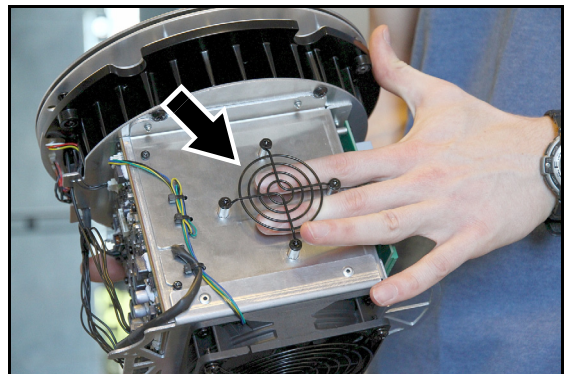

Figure 13: Frame for fastening silica gel bag
3. Lift the luminaire module out of the fixture housing (a service tool is available from Martin® that simplifies lifting the module out of the housing – please contact Martin® Service if you are interested). See Figure 13. Remove a silica gel bag from its wrap. Use a cable tie to fasten the bag behind the frame (arrowed) on the side of the module. Then lower the module back into the housing.